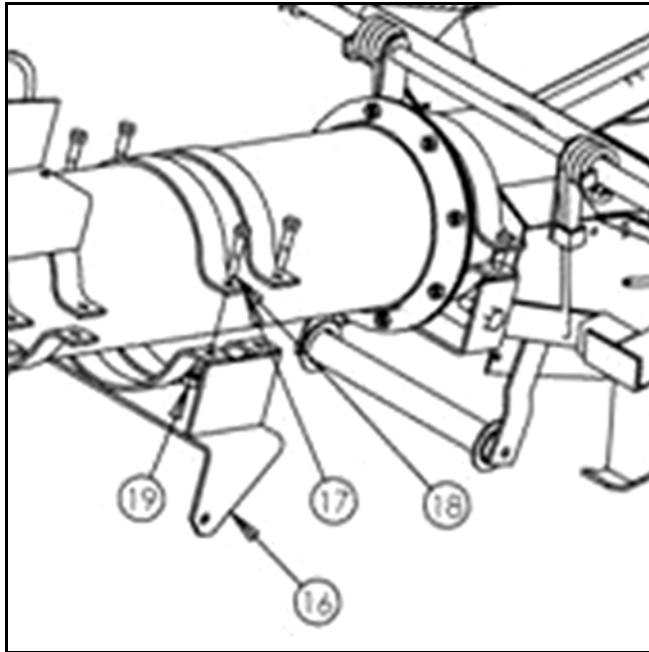

Figure 3.9
6. Loosely attach the wheel move suspension bracket (16) to the tube with u-clamps (17), bolts (18), and locknuts (19) at the dimension described in "Bracket Locations" on page 67. See Figure 3.9.